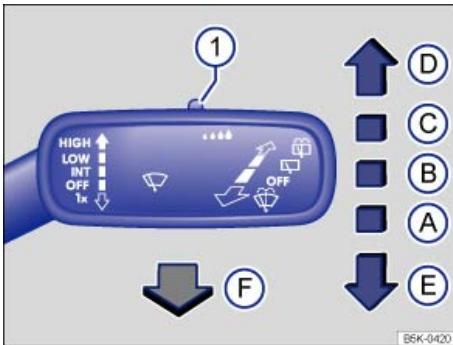

Fig. 81 Operating the front windshield wipers.
- Press the windshield wiper lever down briefly ⇒ fig. 81 \(E\) when the ignition is off.
Carefully fold the wiper arms back onto the windshield before driving! Switch the ignition on and press the windshield wiper lever down briefly ⇒ fig. 81 \(E\). The wiper arms move back to their original position.